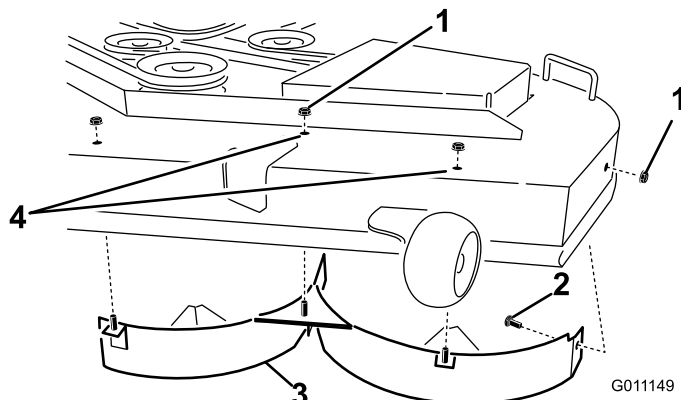

Figure 36
6. Remove the three locknuts (5/16 inch) secured to the welded posts of the left baffle on the top of the mower deck at the center, left of center and left positions (Figure 36). Remove the carriage bolt and locknut on the side wall of the mower deck securing the left baffle to the deck.
7. Remove the left baffle from the mower deck as shown in Figure 36.
8. Locate the two bolts in loose parts and use the existing locknuts. Install these fasteners into the holes shown in Figure 36 on the mower deck to prevent flying debris. Install the bolt up, through the underside of the deck and use an existing locknut to secure from the topside.